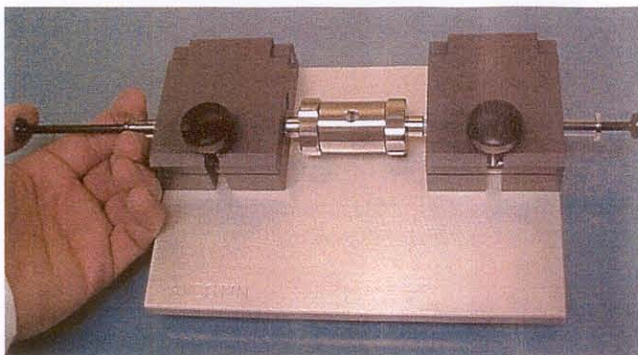

Figure 6: The sample is pushed from one syringe to another across the membrane while the LiposoFast-Basic is secured by the Stabilizer.
7.10 To use the Stabilizer, secure the base plate of the Stabilizer to a bench using a simple clamp. Insert the LiposoFast into the grooving of the Stabilizer. Close the lid of the Stabilizer and tighten the locks. Do not overtighten as the syringes can be damaged. (See Figure 6).